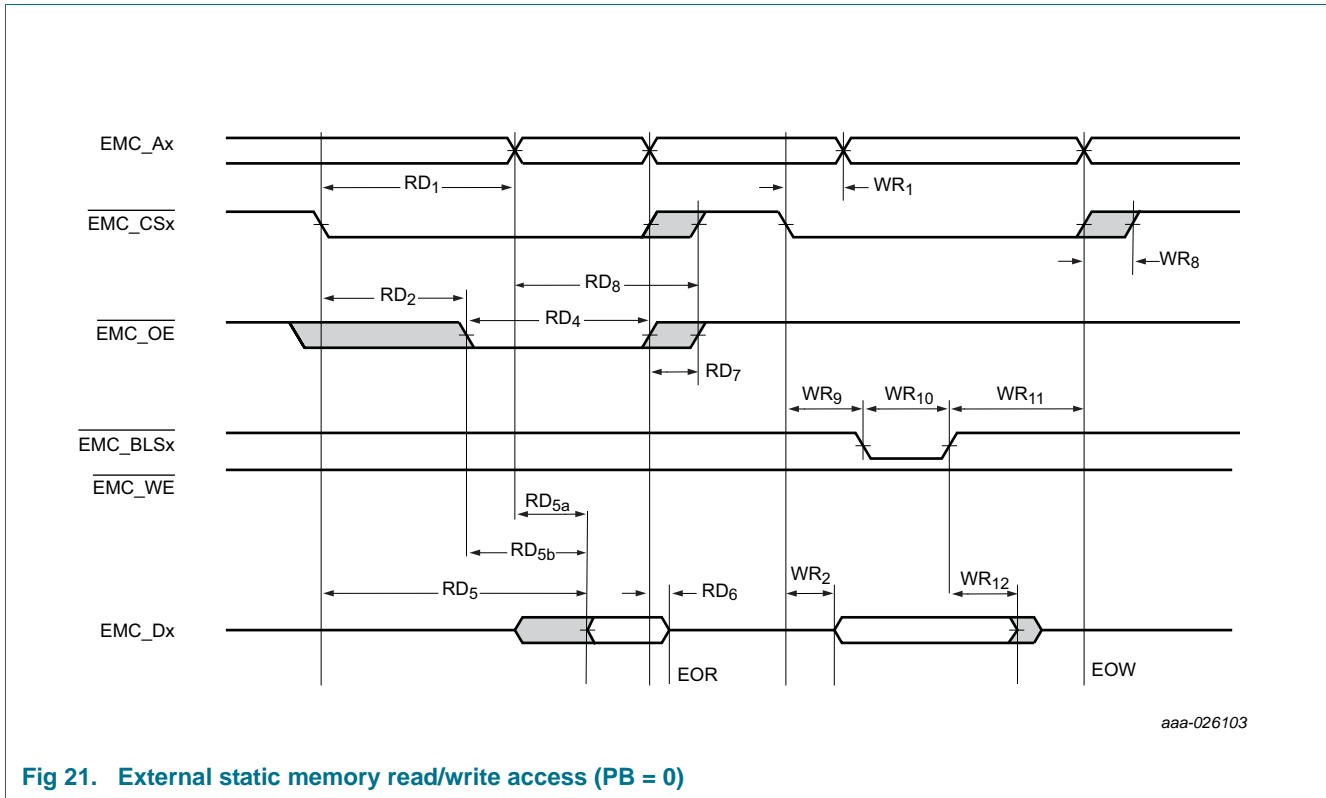

Fig 21. External static memory read/write access (PB = 0)
- [1] Parameters are shown as RD_n or WD_n in Figure 21 as indicated in the Conditions column.
[1] Parameters are shown as RD_n or WD_n in Figure 21 as indicated in the Conditions column.